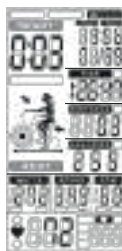
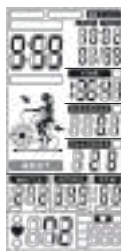

Figure 37
Figure 38
- ⑥ Cycle time counts down from and **REST** flashes once per second along with buzzer beeps(Figure 37), meanwhile **READY** will flash in last 3s(Figure 38).
- ⑦ The above ③&④ continue cycle counting and add 1 per each cycle, until the WORK setting value finished then go to End page.
- ⑧ In **WORK** mode, buzzer beeps 1s then enter into wake up mode if no any signal inputs within 30s.
- ⑨ Press START button once enter into PAUSE mode, Buzzer will sound for 0.5s in every 30s. All values are displaying on LCD and flashing in every 4s. If continue to stop training for 5 minutes, buzzer sounds 2s and enter to Wake-up mode. Press START to resume workout.